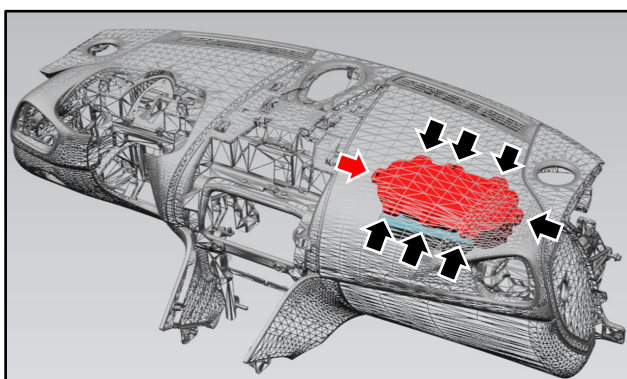

Figure 5
4. Use a fibre-optic camera to inspect the seven locking nuts that are accessible in the locations shown (refer to Figure 5).